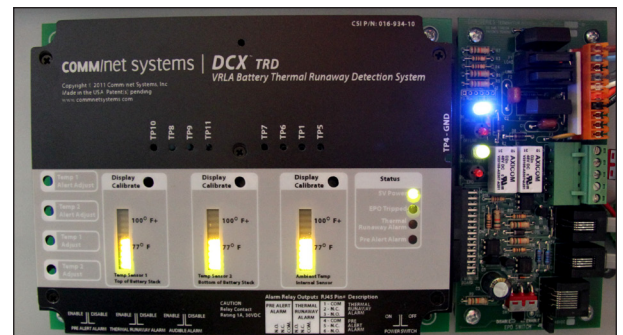

Figure 1. TRD Board
- ☐ TRD Control Board 1 See "Figure 1. TRD Board" on page 2